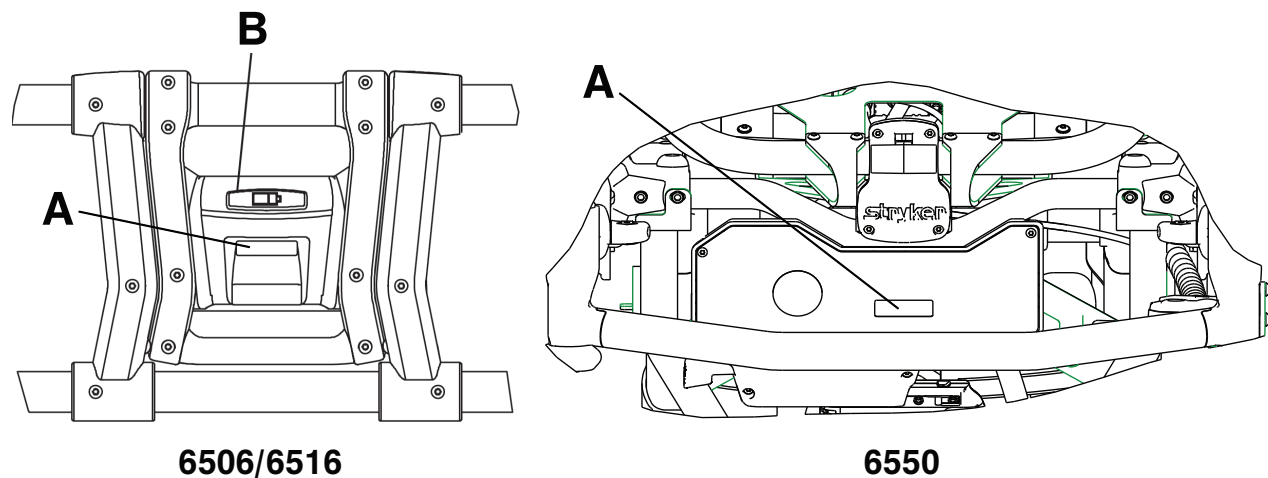

Figure 12 – Checking the hour meter (A), error display (A), and battery status (B)
Use the hour meter (A) to determine the frequency of preventive maintenance. Use the error display (A) for troubleshooting (Figure 12). The error display overrides the hour meter display when an error occurs.